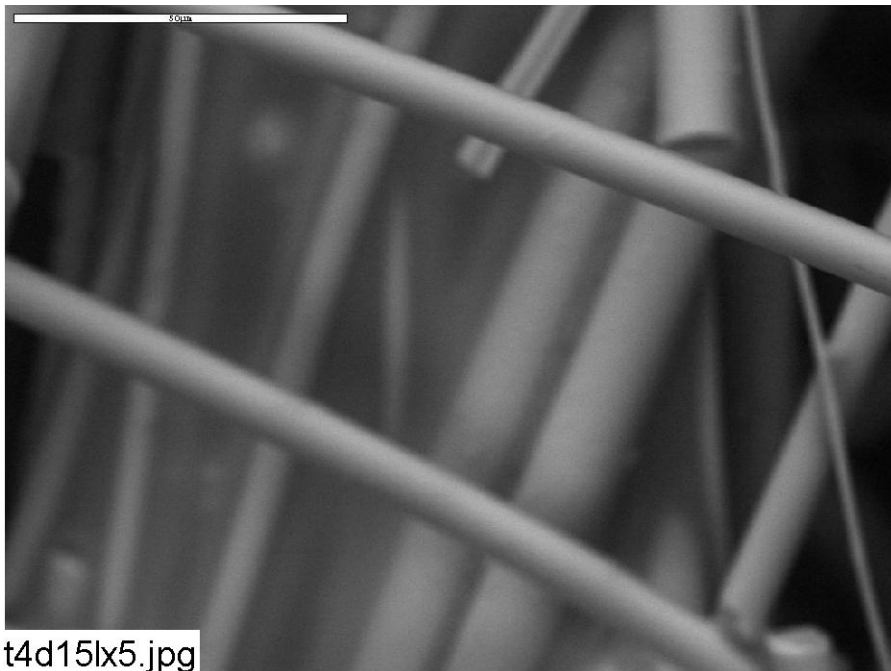

Figure B1-4. Environmental SEM image magnified 1000 times for a Test #4, Day-15 exterior low-flow fiberglass sample. (t4d15lx5.jpg)
- Figure B1-4. Environmental SEM image magnified 1000 times for a Test #4, Day-15 exterior low-flow fiberglass sample. (t4d15lx5.jpg)..... B1-5
| | t4d15lx5 | 1000 × | ESEM image at higher magnification | Figure B1-4 |